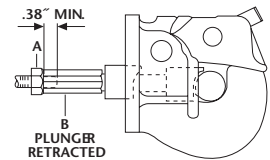

FIGURE 1
- A. Loosen cylinder rod jam nut (A) as shown in **FIGURE 1**.
- B. Turn the plunger rod (B) out (counterclockwise) a distance equal to the difference between your mounting structure thickness and 1".
- C. Retighten cylinder rod jam nut (A) securely.
8. Check the plunger adjustment. When properly adjusted, the plunger should tightly grip a 1.25" round bar (or plunger adjustment tool TF-03147) when energized (see **FIGURE 1**) and retract far enough when de-energized to allow easy removal of the drawbar.